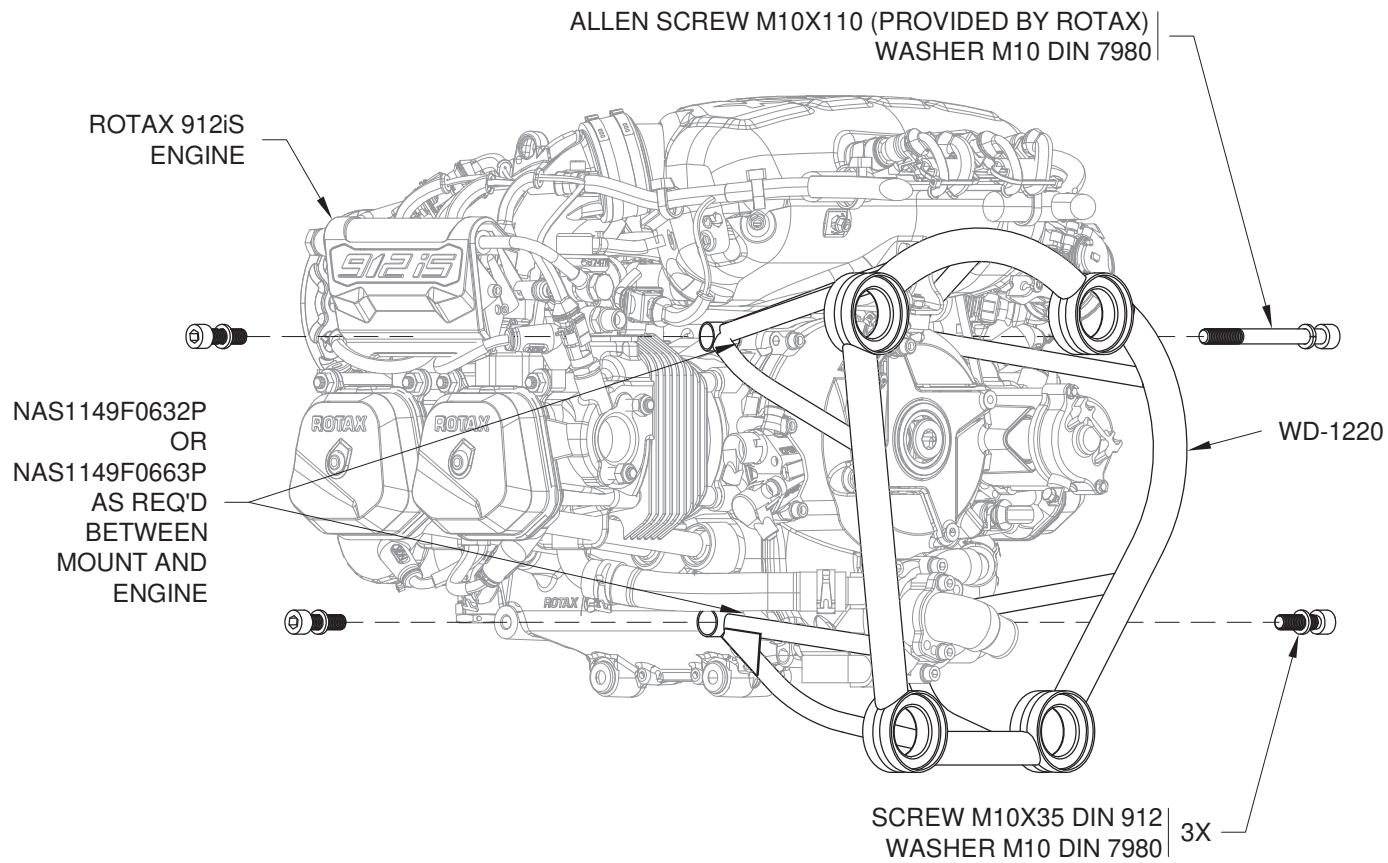

FIGURE 1: ATTACH ENGINE MOUNT RING
Step 6: Reconnect the lower coolant hoses to the water pump and return the spring clamps to their original locations. See Figure 1 on Page 46iS-02.